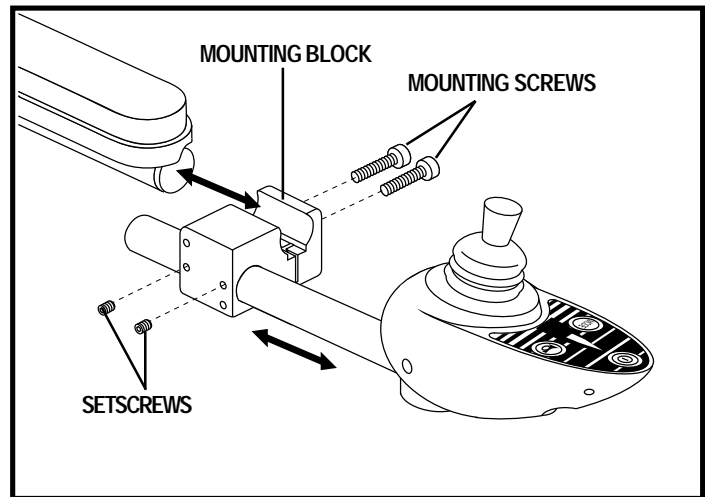

Figure 18. Adjusting Controller Position (Standard Seat)
5. Loosen the mounting screws in the controller mounting block. See figure 18.